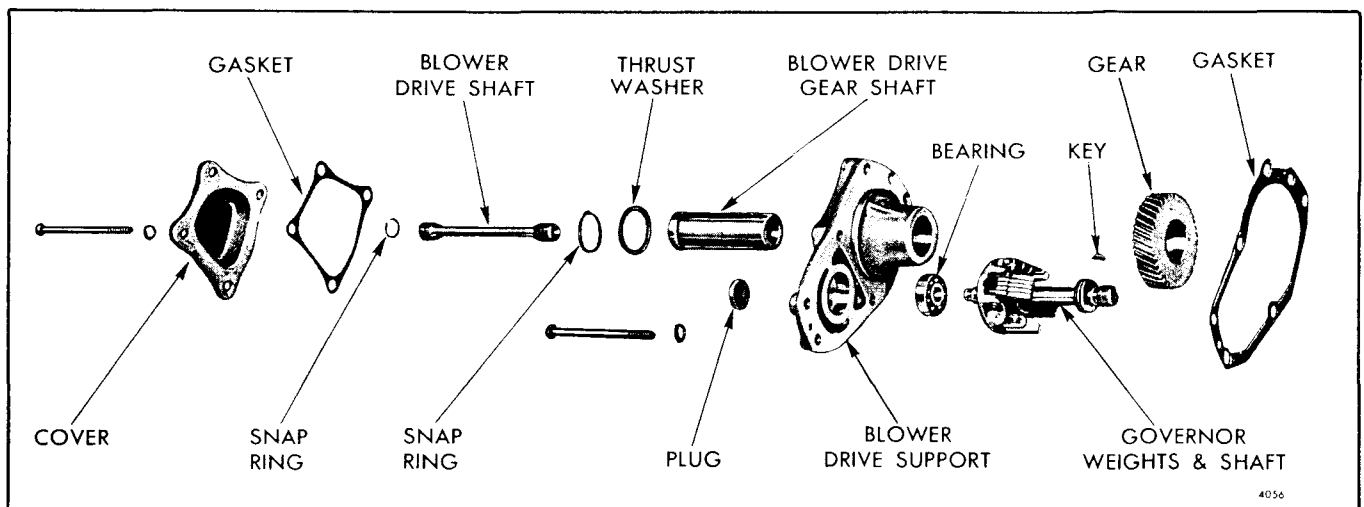

Fig. 12 - Blower Drive Support Assembly Details and Relative Location of Parts
1. Remove the snap ring and the thrust washer from the blower drive gear shaft (Fig. 12). Slide the shaft and gear from the blower drive support.
Refer to Fig. 12 and assemble the blower drive as follows: